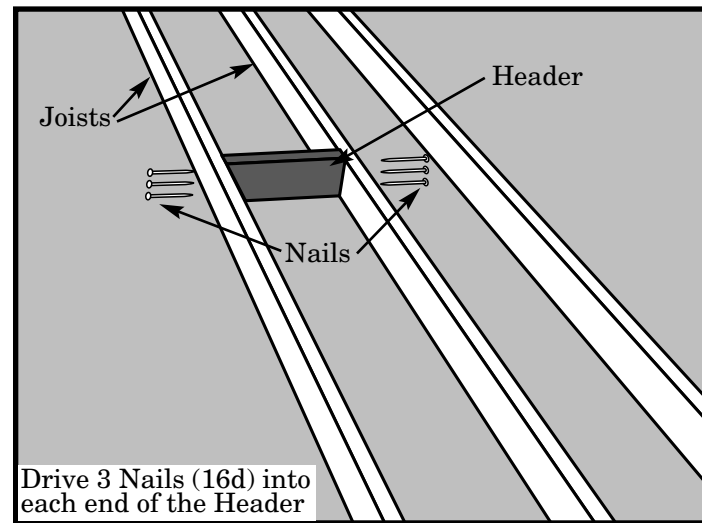

Figure 15
STEP 3. Place one of these headers at one end of your chosen location (Figure 15). The header must fit snugly between the joists. Hammer it into position if necessary; if it is more than 1/16 inch too long, trim it. If it is more than 1/16 inch too short, cut another piece.
STEP 4. Square the header to one joist and drive 3 nails (16d) through the joist and into the header. Check for squareness and drive 3 nails (16d) through the other joist and into the header (Figure 15).